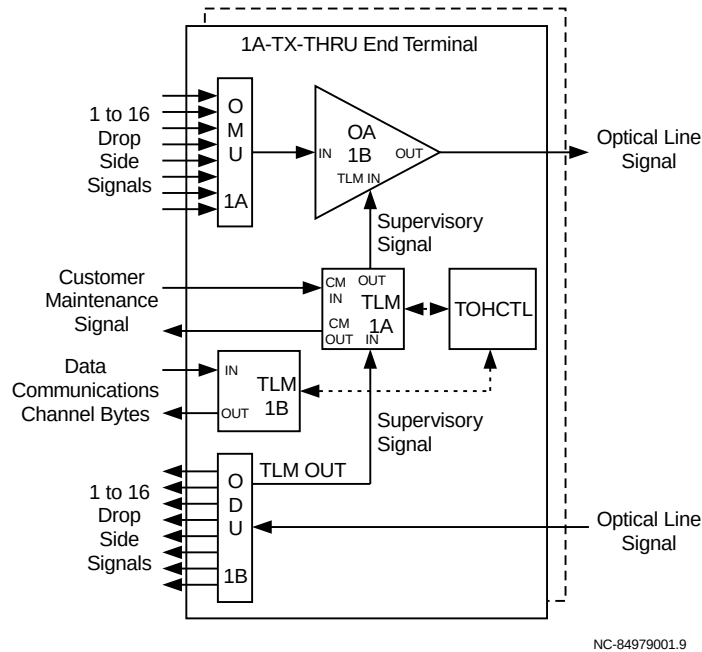

Figure 5-8. Single Optical Amplifier 1A-TX-THRU End Terminal Transmission Block Diagram
Figure 5-8 shows a transmission block diagram of the End Terminal Shelf with a single optical amplifier (OA) circuit pack provisioned as a 1A-TX-THRU end terminal.
In Figure 5-8, the End Terminal Shelf interfaces with up to 16 GbE-1/OC-48/STM-16, OC-12/STM-4, OC-3/STM-1, and/or 100-750 Mb/s drop side signals, one IS-3 customer maintenance signal, one data communications channel, and up to two bidirectional optical lines.